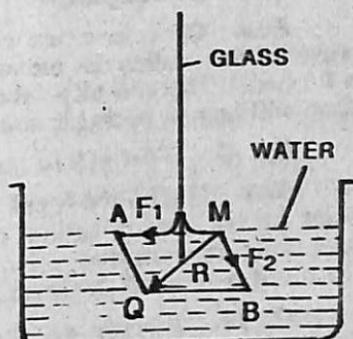

Fig. 28.8. Concave meniscus.
**Ans.** In Fig. 28.8 consider a molecule 'M' of water. Let force of adhesion ( $F_1$ ) between the water molecule M and glass molecules and the force of cohesion ( $F_2$ ) between the water molecule (M) and the rest of the water molecules be represented in magnitude and direction by MA and MB respectively. In this case of water-glass interface,  $F_1 > F_2$ , consequently the resultant R